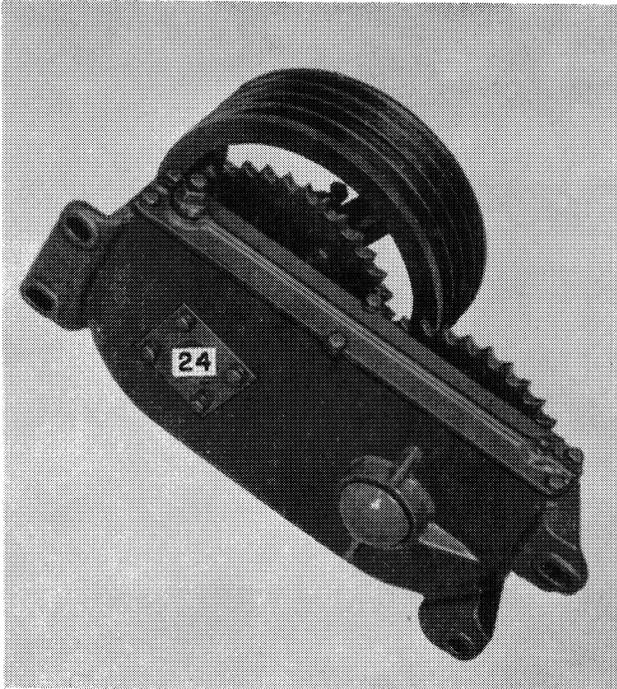

FIGURE 4
1. Remove the side cover (24) from the left side of the gearbox. Do **not** remove the gearbox cover at this time. See Figure 4.